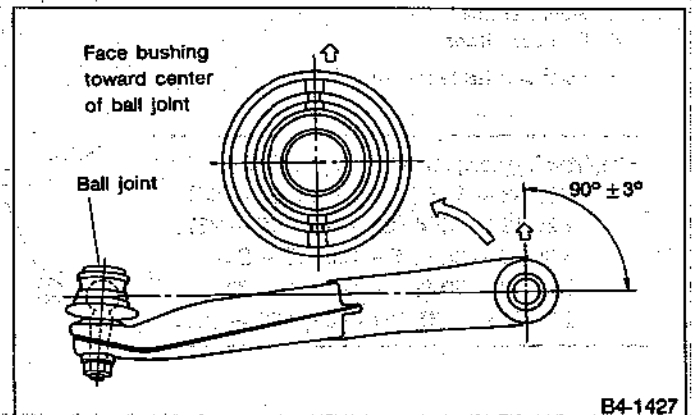

Fig. 44
- b. Install front bushing in correct direction, as shown in Figure 44.